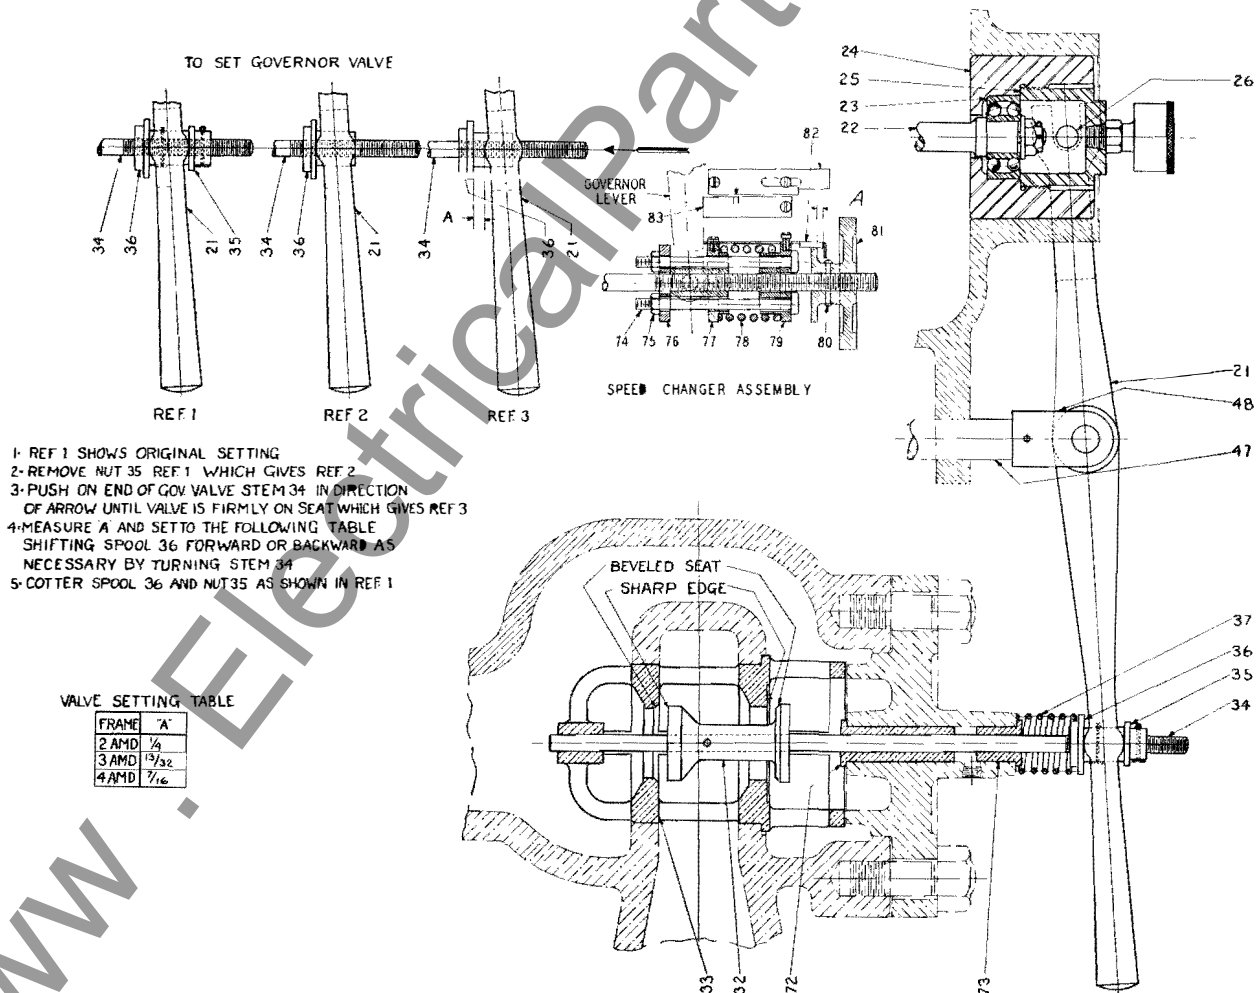

FIG. 4—GOVERNOR LINKAGE AND SPEED CHANGER
Reference to Figure 4 shows the position of the poppet valve and poppet valve stem as it will be received from the factory. Before operating a machine the setting of the governor poppet valve should be checked and if any work has to be done on the governor linkage, the valve travel should again be set and adjusted, if necessary. To adjust the governor poppet valve "32" remove the nut "35" and push the valve stem forward with the hand until it is felt that the valve has seated. Measure the distance from the spool to the contact of the governor lever "21" and adjust the spool by screwing it backward
or forward to give the correct valve travel. This travel should correspond with the value given in the valve setting table (Fig. 4 Page 6) but this dimension will vary with different steam conditions.
turbine running idle, and it is desirable to introduce steam into the feed water heater for heat balance regulation. The hand speed changer, as shown on Fig. 4, may then be brought into operation so that the turbine speed is slightly raised. The speed of the turbine by this speed changer can then be regulated so as to take any portion or all of the load from the motor.
Refer to Fig. 4, showing cut of hand speed changer. The speed changer handwheel "81" is pinned to the valve stem "34" and the stem nut "77" is threaded so that the stem may be screwed into or out of this nut.
3. Measure the clearance "A" between the inner collar of the handwheel and the stop-plate "82". This clearance is the valve travel and should agree with the values given in the table of Fig. 4.